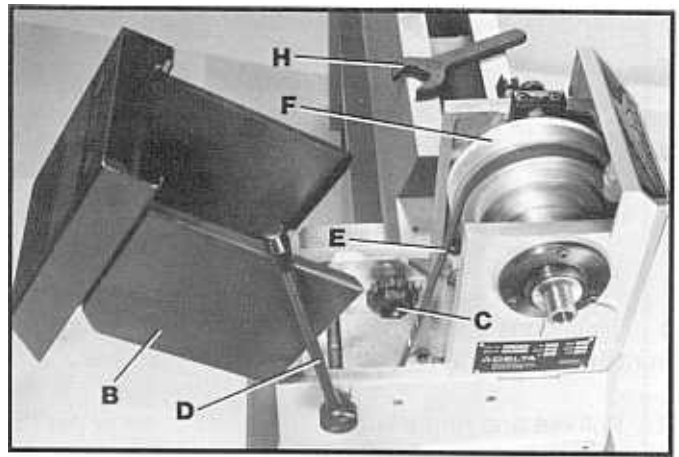
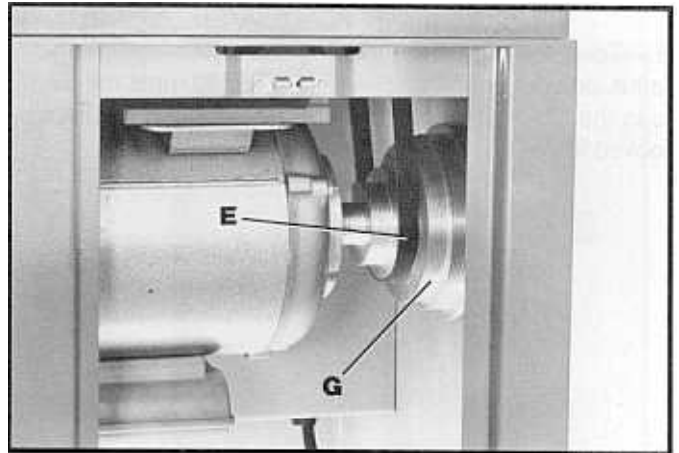

Fig. 36
Fig. 37
4. Position belt (E) Figs. 36 and 37, on the desired steps of spindle pulley (F) Fig. 36 and motor pulley (G) Fig. 37. Pull belt tension lever (D) Fig. 36 toward the front of the headstock to apply tension on the belt. Tighten hex head knob (C) Fig. 36 with wrench (H) supplied, replace rear door on headstock cabinet and close headstock cover (B).